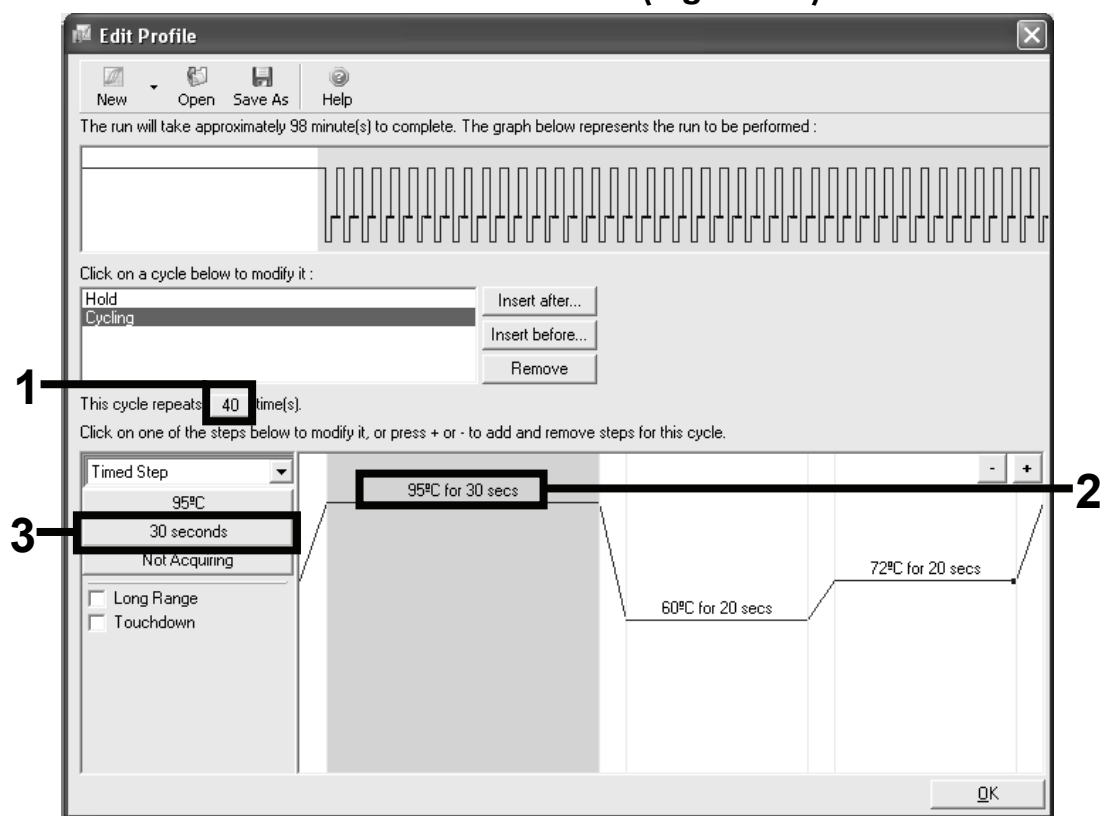

Figure 20. Cycling step at 95°C.
Amplification of the DNA	Figure 20, 21, 22, 23
15. Set the cycle number to 40 by clicking the number. Highlight “95°C for 20 secs”. Set the time to 30 seconds (Figure 20).